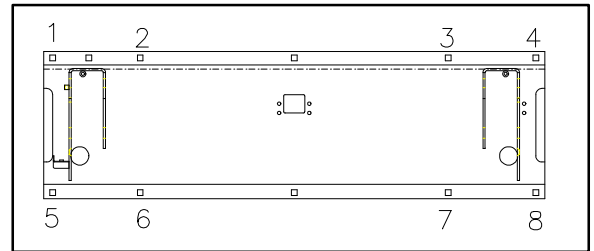

FIGURE 2-5: VAN BASEPLATE HOLES
- 1) Refer to **Figure 2-5**. Mark/drill four 25/64" baseplate assembly mounting holes (1, 2, 3 and 4) through vehicle floor. (On Dodge and GM vans, you must drill through vehicle floor and sub-frame).